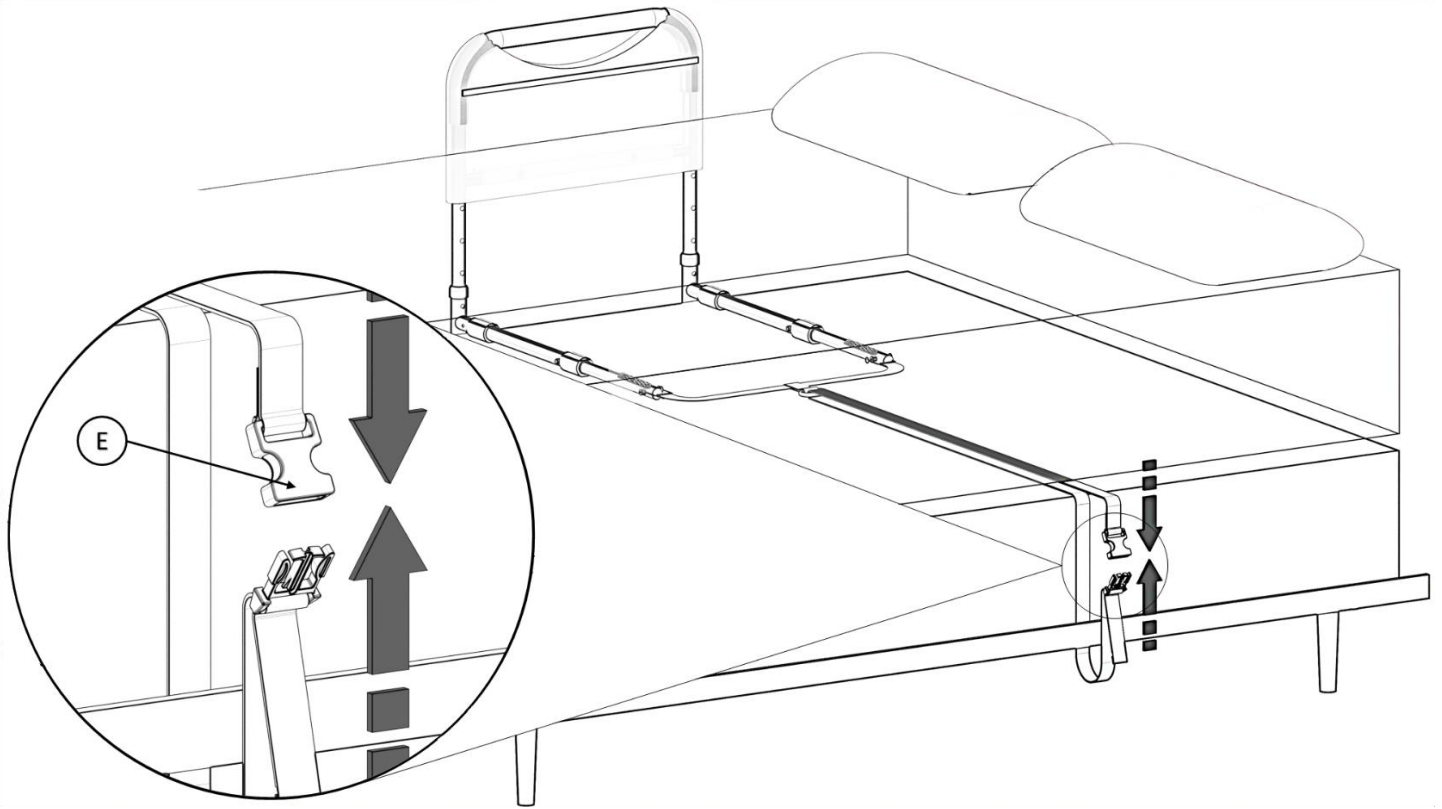

FIGURE 5
4. Loop SAFETY STRAP (Part **E**) around bed frame, re-buckle and tighten SAFETY STRAP to secure Bedrail product against side of the mattress as shown in Figure 5.